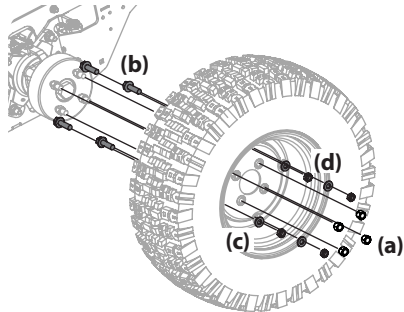

Figure 48
- Remove the four lug nuts (a) to remove the inner tire. See Figure 48.
- If replacing the inner tire, remove the four hex screws (b), washers (c) and jam nuts (d) that hold the mounting screws in place for the dual wheel adapter. See Figure 48.